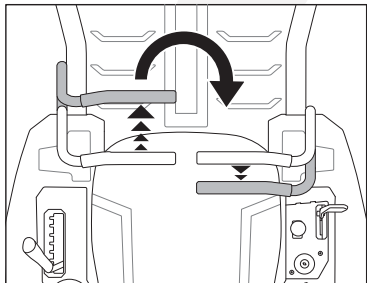

Fig. 19A
2. To turn clockwise, move the left drive control lever forward while simultaneously moving the right drive control lever rearward. (Fig. 19A)